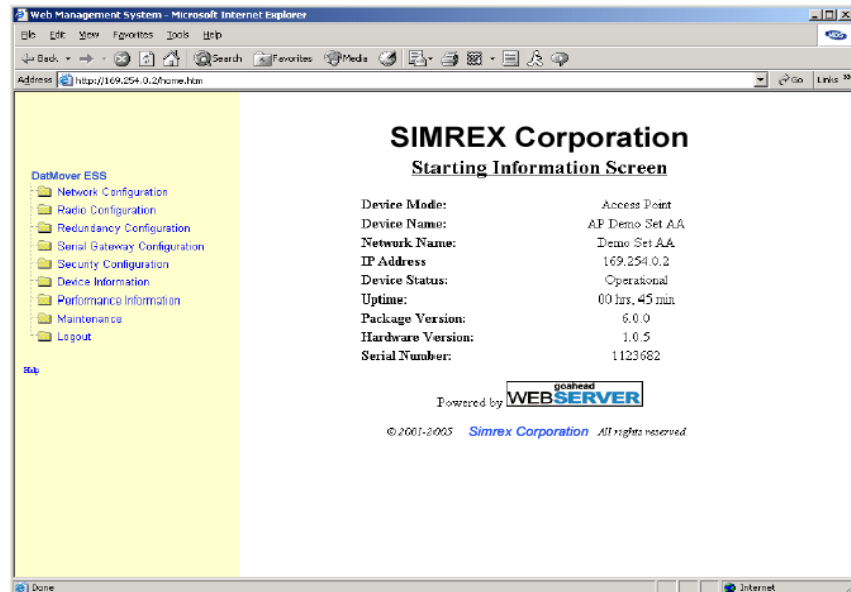

Figure 3-7. Starting Information Screen—Web Browser Example
5. Click **OK**. The unit responds with a startup menu screen similar to that shown in **Figure 3-7**. From here, you can review basic information about the unit or click on one of the menu items at the left side of the screen.